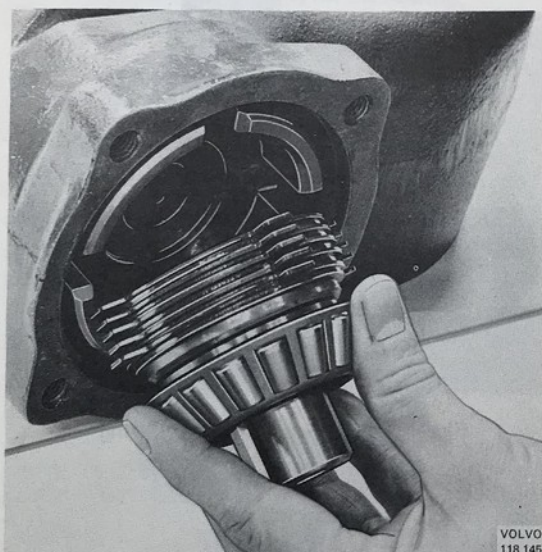

Fig. 92-81. Fitting the input shaft
17. Incline the gear housing and fit the input shaft in the housing, see Fig. 92-81.